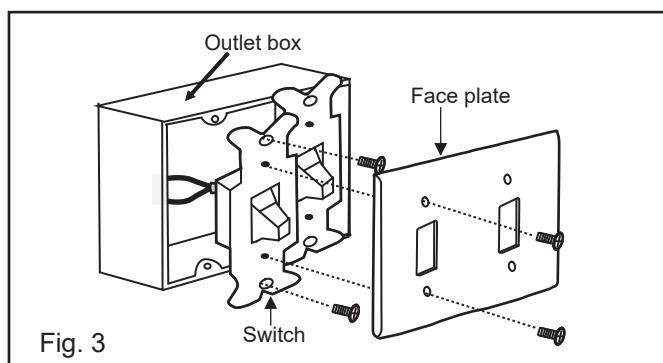

Fig. 3
1. Remove the existing wall plate and old switch from the wall outlet box. (Fig. 3)